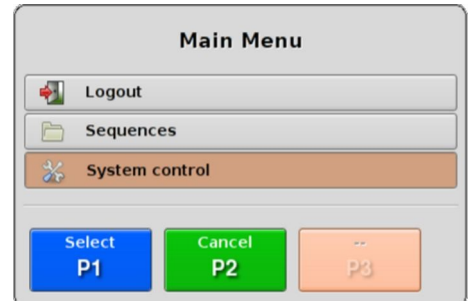

Fig. 22: Main menu
- ▷ Press  and the main menu is displayed (see Fig. 22).